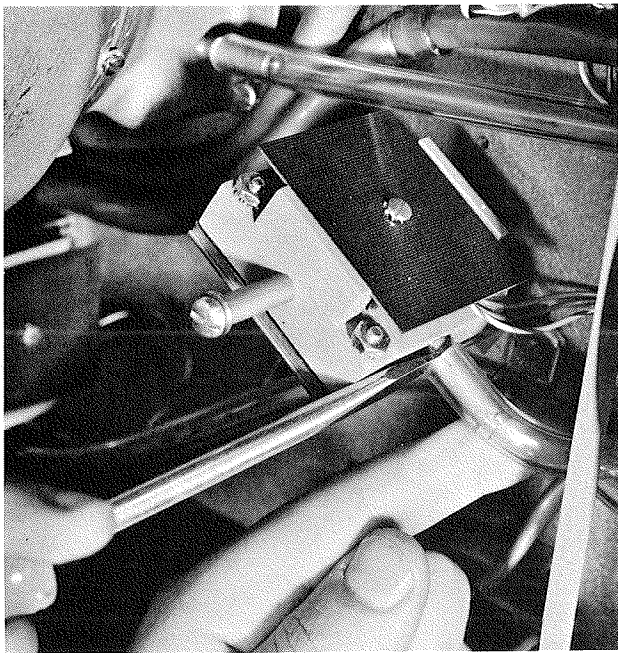

Figure 6-4. Removing Vacuum Hose
- c. Remove vacuum hose from switch fitting. (This is most easily accomplished by prying end of hose away from switch body using a wide screwdriver blade as shown in figure 6-4.)